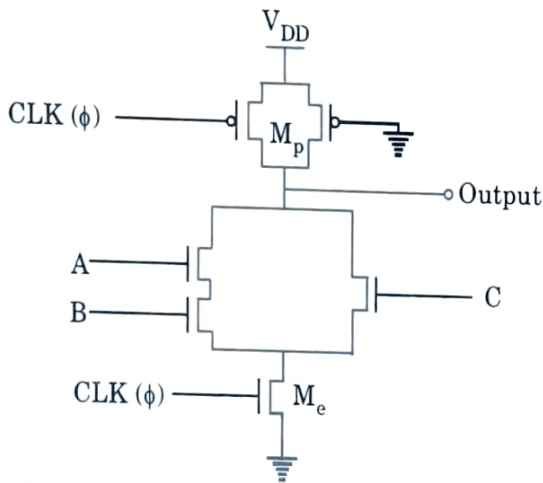

Fig. 3.7.3. Addition of level restoring transistor.
6. One way of alleviating the problem of charge sharing is to add a small pMOS transistor in parallel with the precharge transistor as shown in Fig. 3.7.3 to supply the extra current needed.